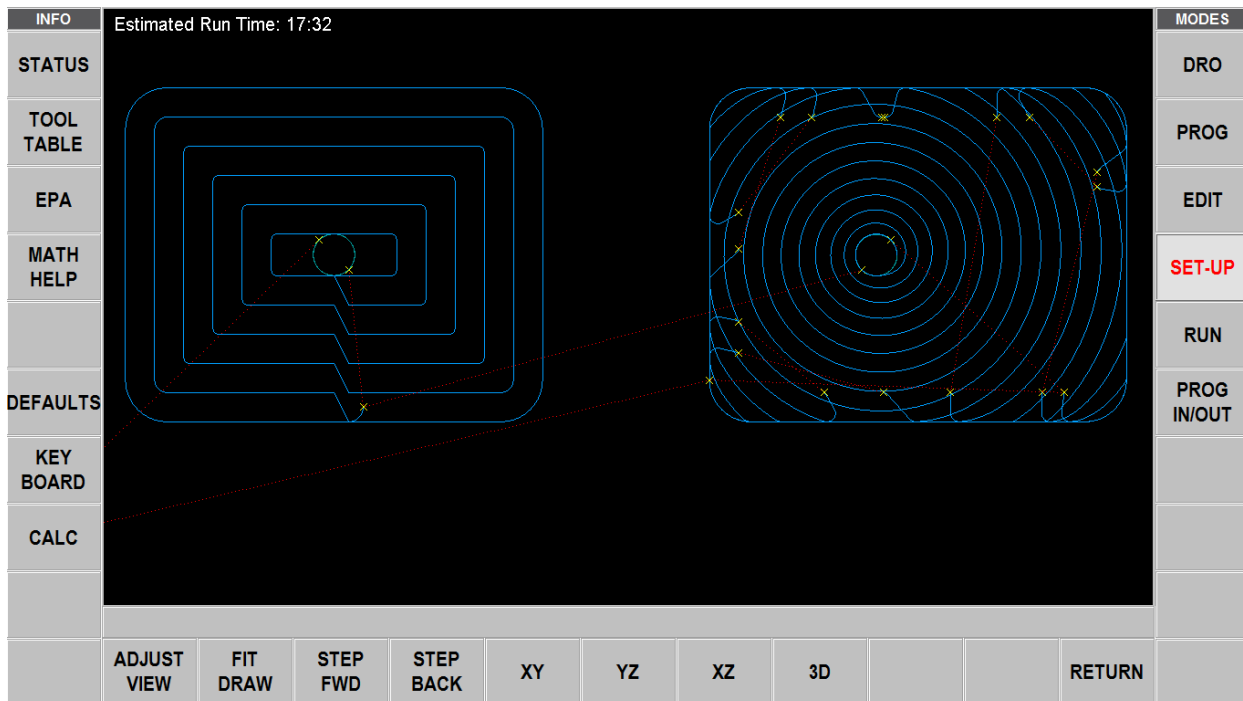

Figure 6.5.1 (7) Offset tool path on the left, Adaptive on the right.
Note: in Figure 6.5.1 (7) above, the link length is set to a small value, hence the many rapid moves.